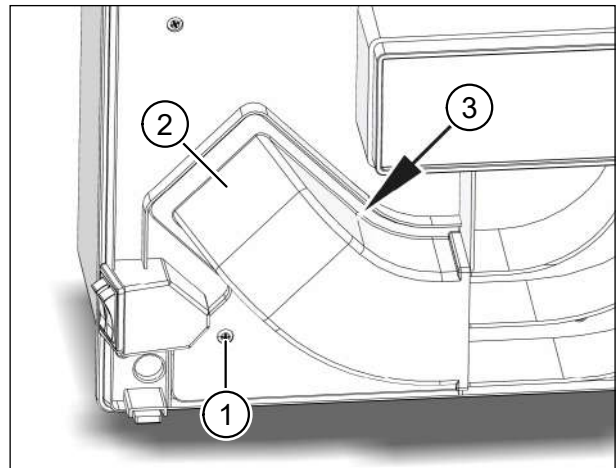

Fig. 34: Removing the supply air hood
- ▶ Use the screwdriver to loosen the screw (item 1 in Fig. 34) on the supply air hood (item 2 in Fig. 34).
- ▶ Hold the supply air hood by the curved walls and press against the pressure point (item 3 in Fig. 34). This will release the latch connection and you can now remove the supply air hood.